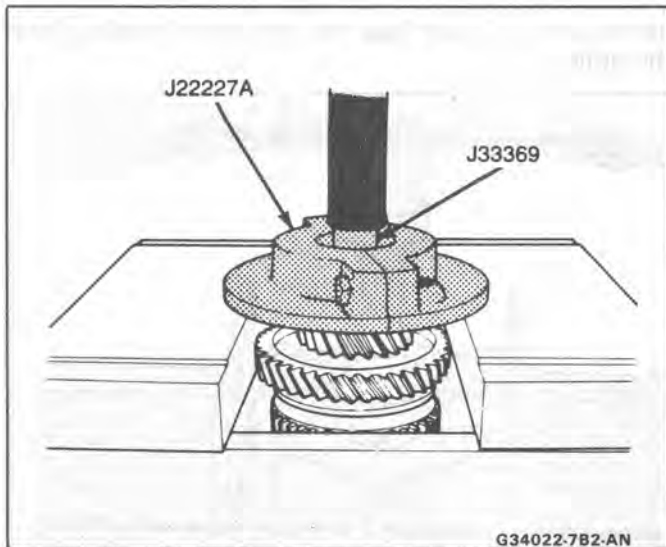

Fig. 23 Front Output Bearing
1. Remove the front bearing using J 22227-A with J 33369 and a press (Fig. 23).